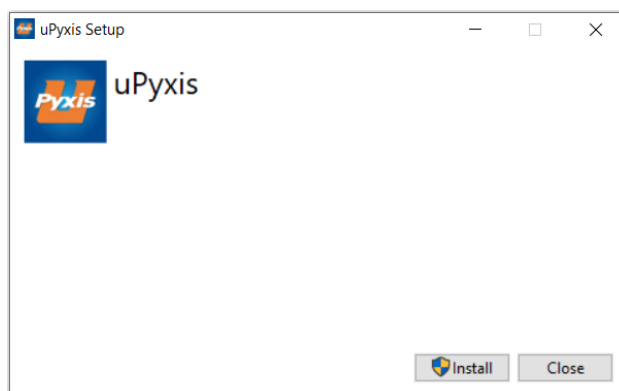

Figure 13. uPyxis® Desktop App installation
3. On uPyxis® Desktop App, click Device→ **Connect via USB-Bluetooth** (Figure 13).
4. If the connection is successful, the ST-724/ST-725/728 and its Serial Number (SN) will be displayed in the left pane of the uPyxis® window.